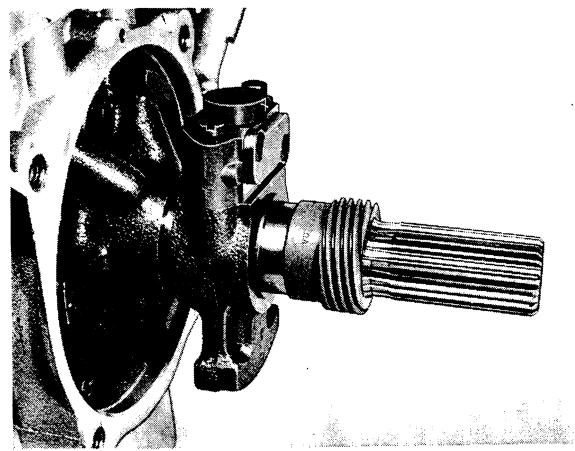

Fig. 4-108. Installing speedometer gear
22. Place the speedometer gear correctly on the driven shaft as shown in Fig. 4-108. Fit the extension housing with a new gasket and fit the drive flange with washer and nut.